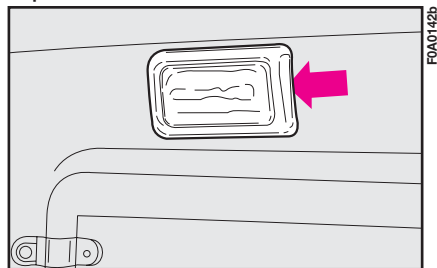

fig. 35
1) Remove the ceiling light **fig. 35** by releasing the clipped on lens frame in the point shown by the arrow.